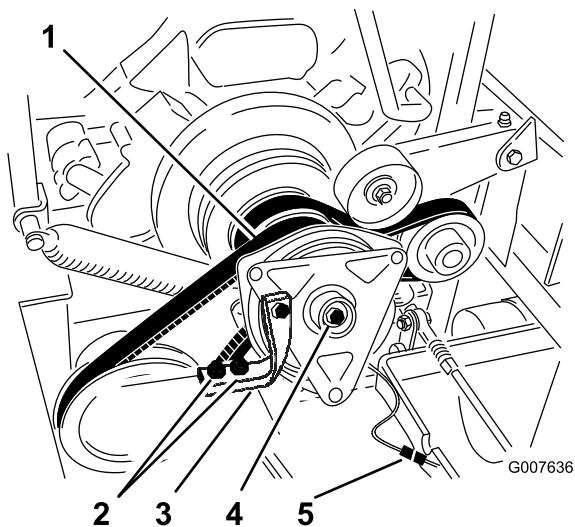

Figure 56
6. Unplug the electric connection for the clutch (Figure 56).
7. Remove the two bolts holding the rubber clutch strap to the mower frame (Figure 56).
8. Remove the center bolt holding the clutch to the engine shaft and remove the clutch and key (Figure 56).
15. While holding the crank shaft at the back of the machine, install the center bolt and torque it to 50 ft-lbs (68 N-m) (Figure 56).
16. Install the rubber clutch strap to the mower frame with the two previously removed bolts and nuts (Figure 56).
18. Plug in the electric connection for the clutch (Figure 56).